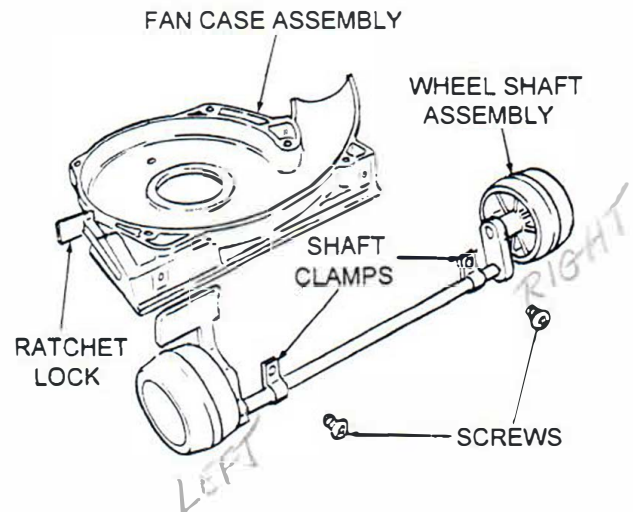

Figure 11. Ratchet Lock and Wheel Shaft Removal
1. See Figure 11. Remove two screws and shaft clamps from bottom of fan case.